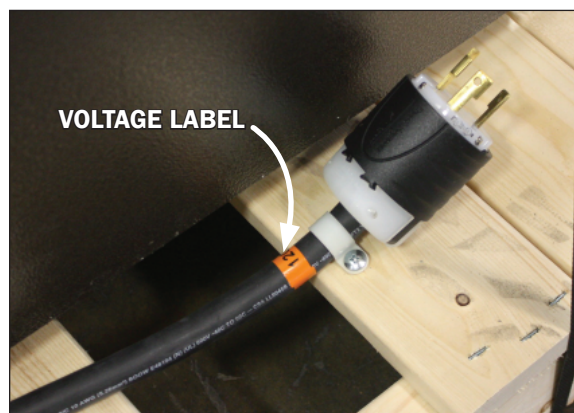

Fig. 6 Main power cord voltage label
Prior to plugging in and starting up the case always check the data tag located on the left end exterior panel or top interior of the case, as well as the voltage label found on the main power cord (Fig. 6) which can be found at the rear base panel. **Note:** **Check that the voltage of the receptacle you are going to use for power and the voltage required for the case match.**
1. After the main power cord (Fig. 6) located at the rear base panel of the case is plugged in and the power switch flipped to ON the case should begin normal operations.